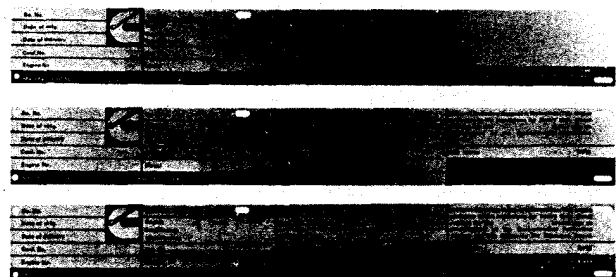

Fig. 0-1. Engine serial dataplates
Note: Engine serial dataplates shown in Fig. 0-1 are: (1) Non-certified engine serial dataplate, applies to current non-certified engines. (2) Certified engine serial dataplate applies to engines conforming to the Federal (U.S.A.) Clean Air Act. (3) California engine serial dataplate applies to engines conforming to California Air Resources Board standards as well as to the Federal Clean Air Act. Engine serial dataplate may not be changed without consent and approval of Cummins Engine Company, Inc.